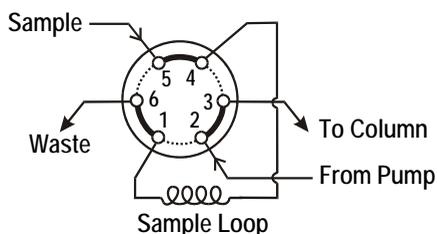

Figure B-6. Injection Valve Connections
1. Connect the line from port 2 on the injection valve to the pump pressure transducer eluent outlet fitting (see Figure B-6).
2. The needle seal line that extends from the inject port in the autosampler compartment is coiled inside the door on the right side. Route this line through the side slots on each module and connect it to port 5 on the injection valve inside the chromatography compartment (see Figures B-6 and B-7).